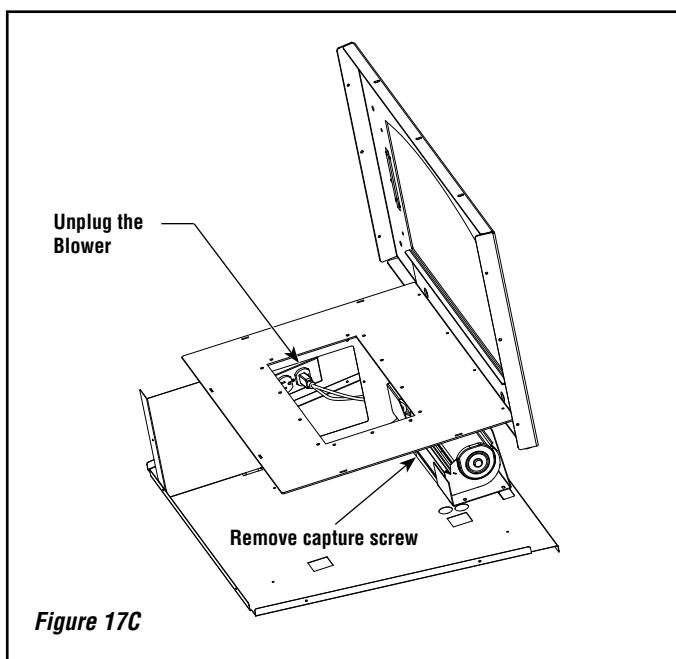

Figure 17C
5. Unplug the blower (**Figure 17C**).
6. Remove the 5/16" hex head capture screw located at the front of the blower assembly (**Figure 17C**).